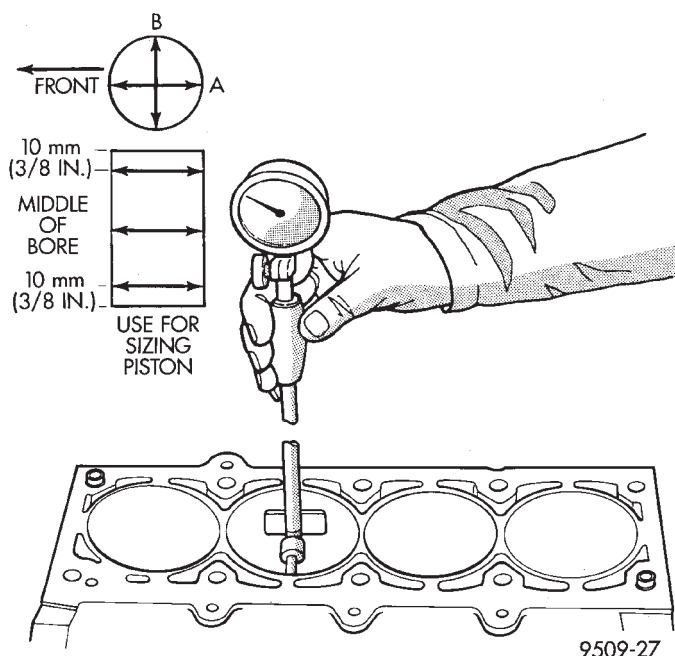

Fig. 72 Cylinder Bore Measurement
(1) It is mandatory to use a dial bore gauge to measure each cylinder bore diameter (Fig. 72). To correctly select the proper size piston, a cylinder bore